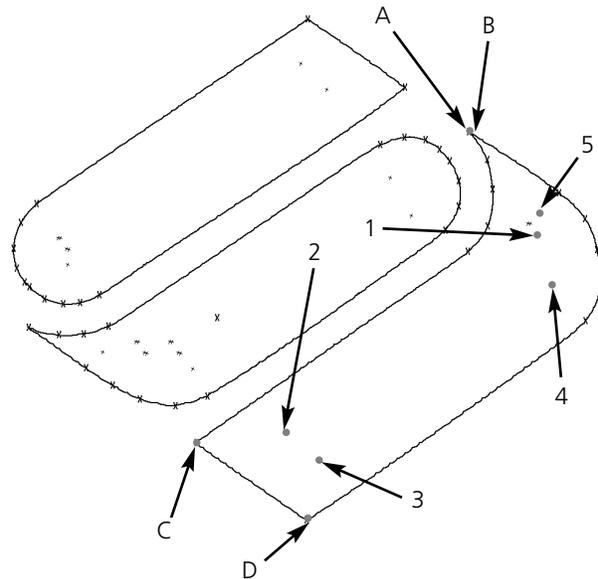

Figure 5-63
- Generate lock stitches near point D, move to point 1 in Figure 5-63 with the needle up / normal stitch sequence, and generate another set of lock stitches to get ready for the last section of the Saurer logo fill stitching.
3. When you have completed the fill stitching with a Mk3 at point A, perform a lock stitch at D in Figure 5-63.